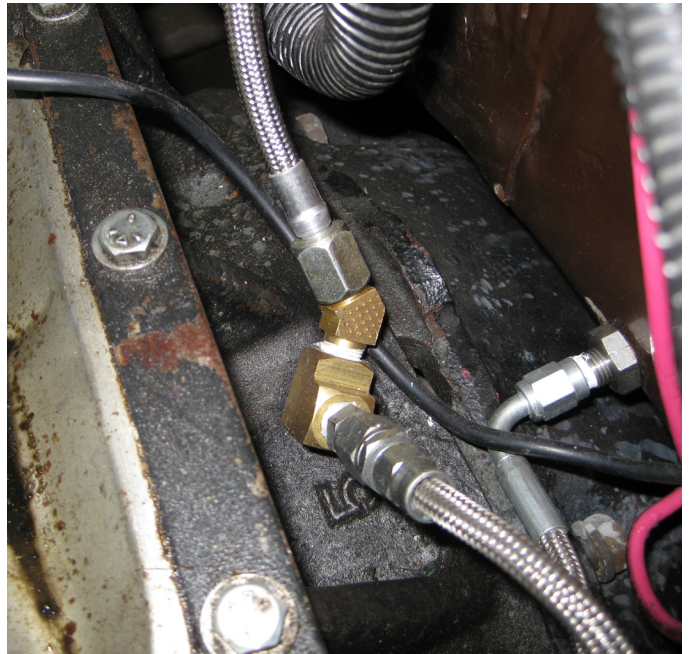

Fig 3.1-a.
- B. Install the supplied 1/4"NPT street TEE into the block located on upper rear of the engine block just above where the bell housing attaches. Install the oil pressure sender into the end of the TEE. Install the 1/4" x -4 fitting into the branch of the TEE. Position the fitting so that the opening faces the passenger's side/rear of the engine. (See *Fig. 3.1-a.*)
- C. Attach the end of the supplied -4 braided oil feed line to the installed fitting. (See *Fig. 3.1-a.*) Secure the hose with the tie-wraps provided, routing it away from exhaust heat, chafing and/or sharp objects. Temporarily cover the open end from debris until the connection is made to the supercharger.